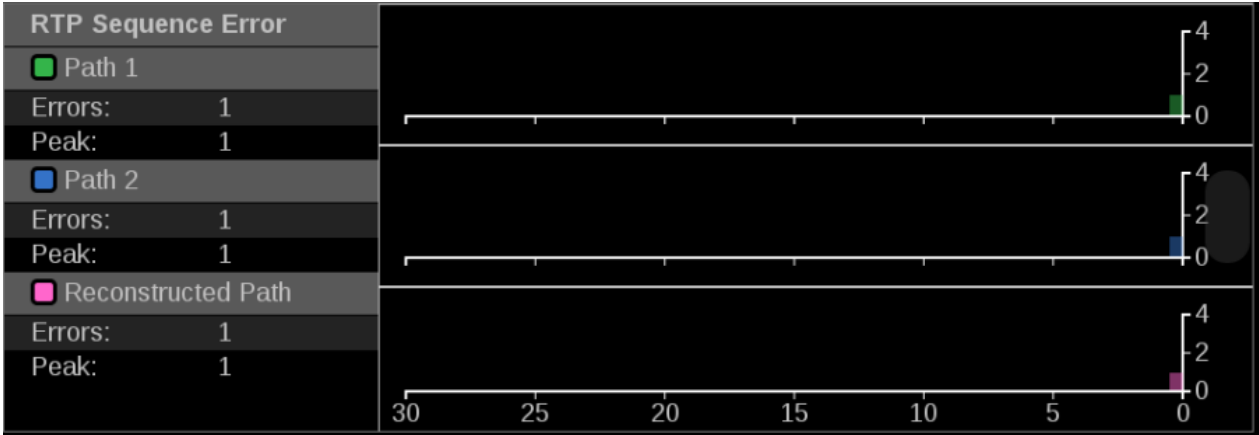

Figure 152: IP Graphs application – RTP Sequence Error graph
**The RTP Sequence Error:** Shows the RTP sequence information and reports if any packet is received out of order. (See Figure 152.)